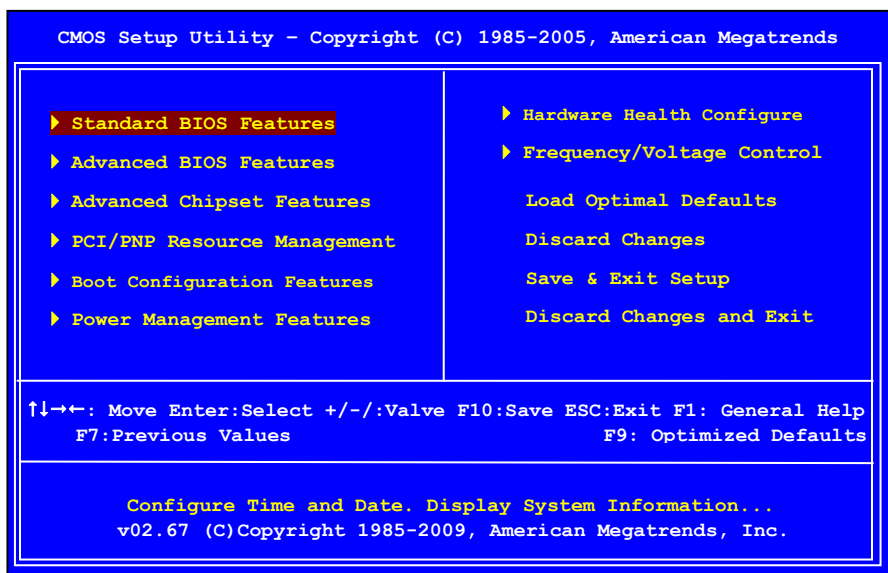

Figure 2. CMOS Setup Utility Main Menu
This motherboard contains eight (8) USB 2.0 ports that are exposed on the rear panel of the chassis (Figure 2). The motherboard also contains two (2) 10-pin internal header connectors onboard that can be used to connect an optional external bracket containing up to four (4) USB 2.0 ports.